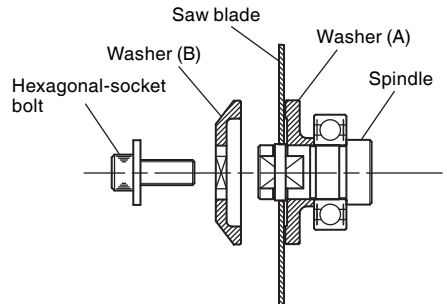

Fig. 8-2
For saw blades with a hole diameter of 15.9 mm, as shown in Fig. 8-2, the concave side of Washer (A) and the concave side of Washer (B) must be fitted to the saw blade sides.
* Washer (A) is supplied for 2 types of saw blades with the hole diameters of 20 mm and 30 mm. (When buying the Circular Saw, one type of washer (A) is supplied.)